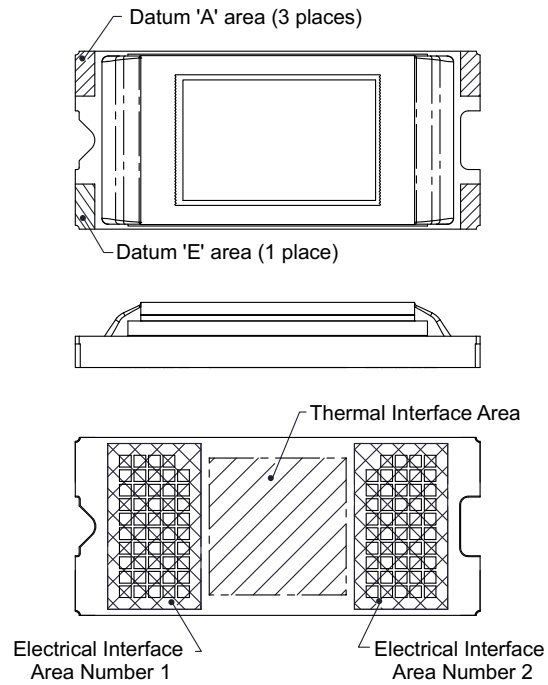

Figure 4. System Interface Loads for FQD
(1) See **and Mechanical, Packaging, and Orderable Information for diagrams.**
(2) See Mounting Concepts DLP4500FQE.
(3) See **and Figure 4** for diagrams.
(4) See Mounting Concepts DLP4500FQD.